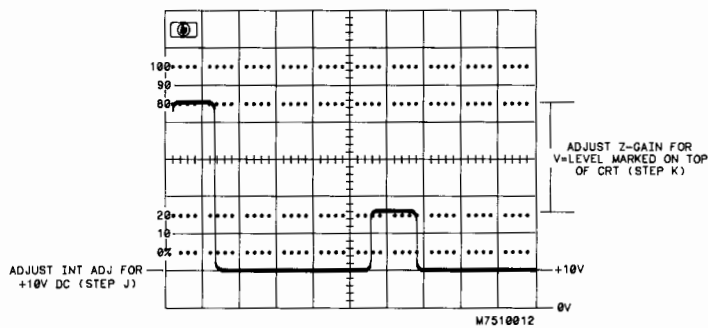

Figure 6-6. Intensity and Z Gain Adjustment
- j. Set Int Adj (A8R178) so that the base line of the waveform rests at +10V (see figure 6-6).
- k. Adjust Z Gain (A8R116) so that the amplitude difference between the first pulse (larger pulse) and the second pulse (smaller pulse) is equal to the value marked on top of CRT (figure 6-6).